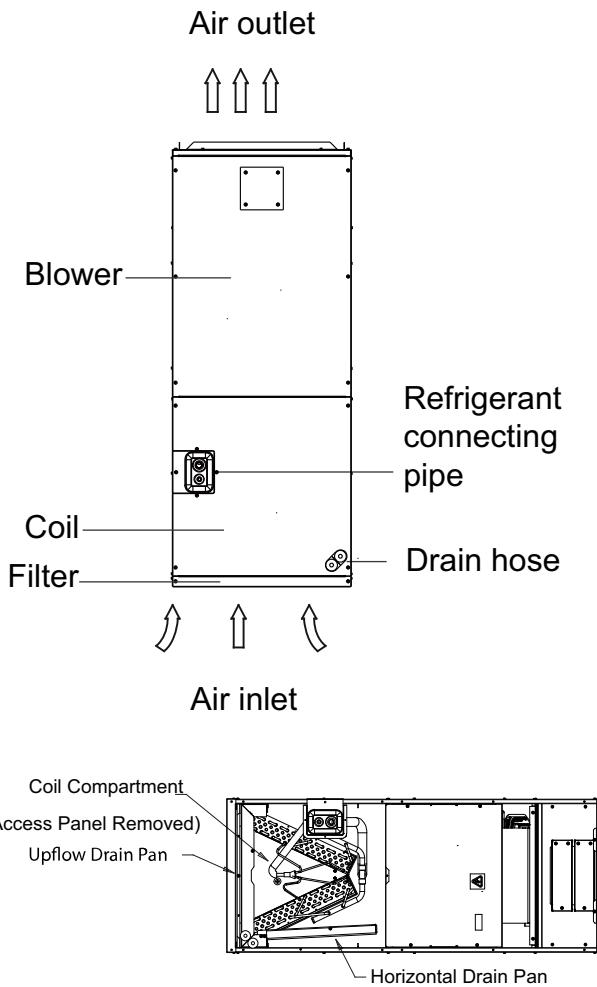

Fig. 15 — Indoor Unit Representation
- Illustrations in this manual are for explanatory purposes. The actual shape of your indoor unit may be slightly different. See Fig. 15. The actual shape shall prevail.
- This display panel on the indoor unit can be used to operate the unit in case the remote control has been misplaced or is out of batteries. See Fig. 15.